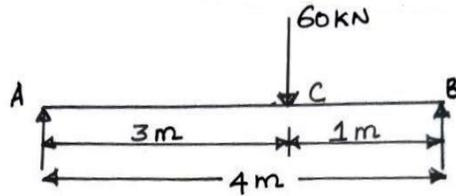

Figure.1
11. Using castigliano's theorem, obtain the deflection under a single concentrated load applied to a simply supported beam shown in figure 1. Take $EI = 2.2 \text{ MN/m}^2$ 16 CO1 [K₃]